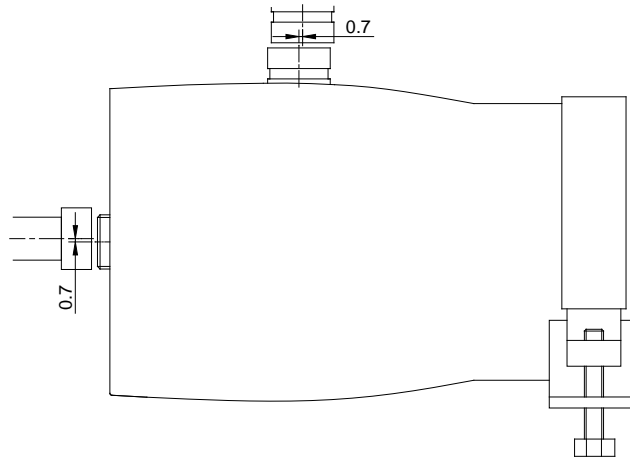

Figure 1
2. Connecting piping alignment to feed, Concentrate and Permeate ports should not exceed 0.7 mm misalignment (Figure 1). If the misalignment exceeds 0.7 mm, please contact Wave Cyber for technical assistance.